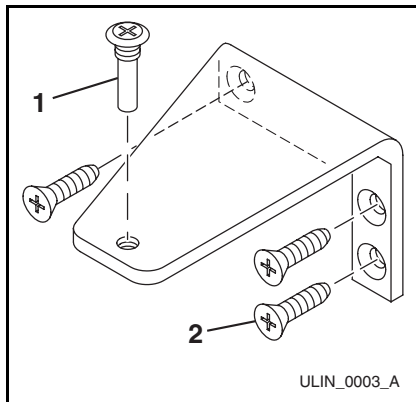

Figure 19
1. Remove top hinge screw pin (**Figure 19, 1**) from door using a Phillips screwdriver. Remove door by tilting forward and lifting off bottom hinge pin.
3. Remove top hinge (three screws) (**Figure 19, 2**) and reinstall hinge screw pin (**Figure 19, 1**).